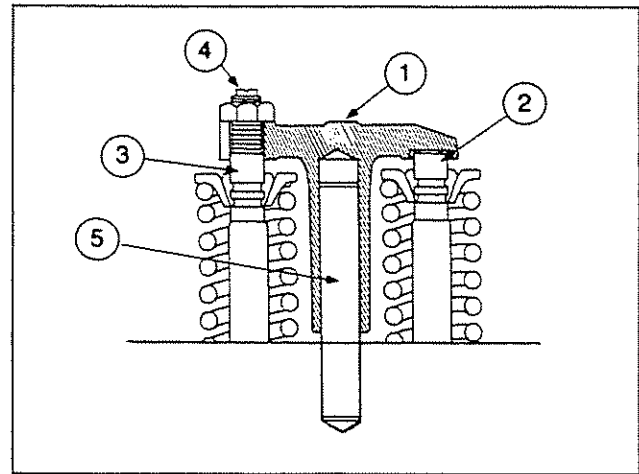

Fig. 2-50, (N21461). Valve crosshead
1. Loosen the valve crosshead adjusting screw locknut and back off the screw (4, Fig. 2-50) one turn.